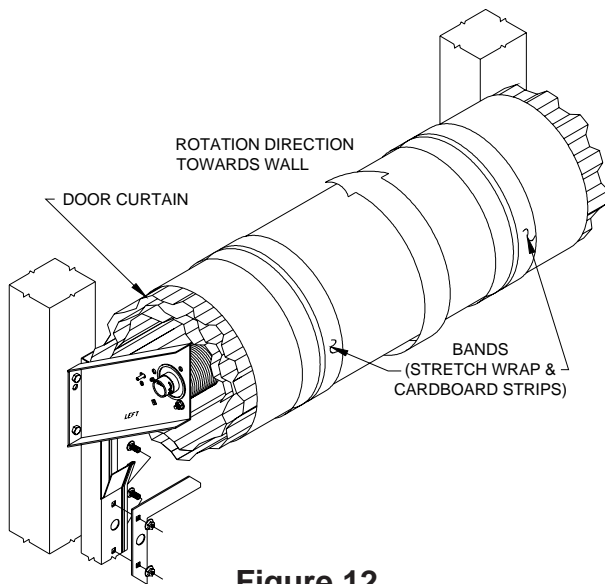

Figure 12.
8.1 Install the track bolts, door stops and whiz nuts in each side guide as shown in Figure 12. Do not tighten at this time.
8.2 Bend the guide tabs out slightly (about 1/4"). Standing inside the opening looking out, place your hand on top of the door and push away from you rotating the door nest. (Figure 12) For doors 6'-1" tall or shorter with one spring rotate the door nest 3 2/3 to 4 revolutions. For doors taller than 6'-1" rotate the door nest 2 complete revolutions. (Note: if the door is equipped with a chain hoist, it can be quite helpful in door pre-tensioning. Please reference section 10